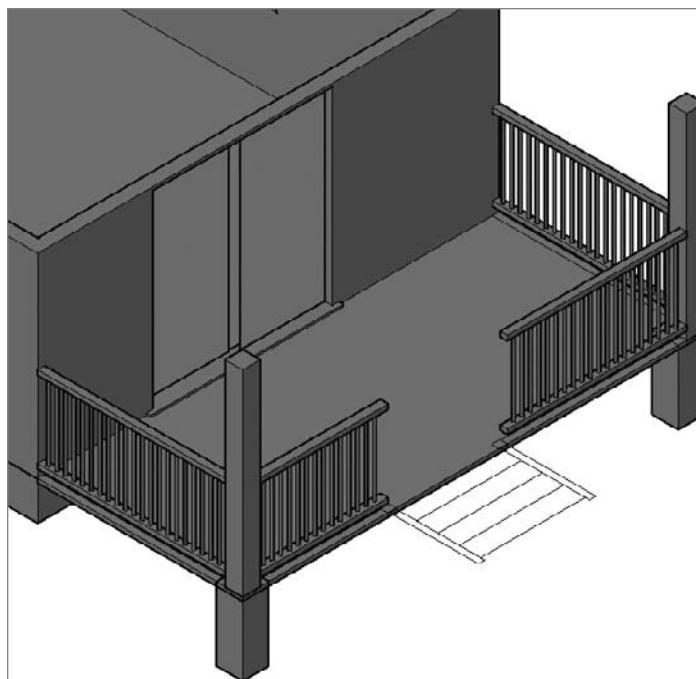

FIGURE 16.59 The support posts in place
11. Copy the post to the opposite side of the deck and adjust the placement as necessary. Figure 16.59 shows the two support posts in place.